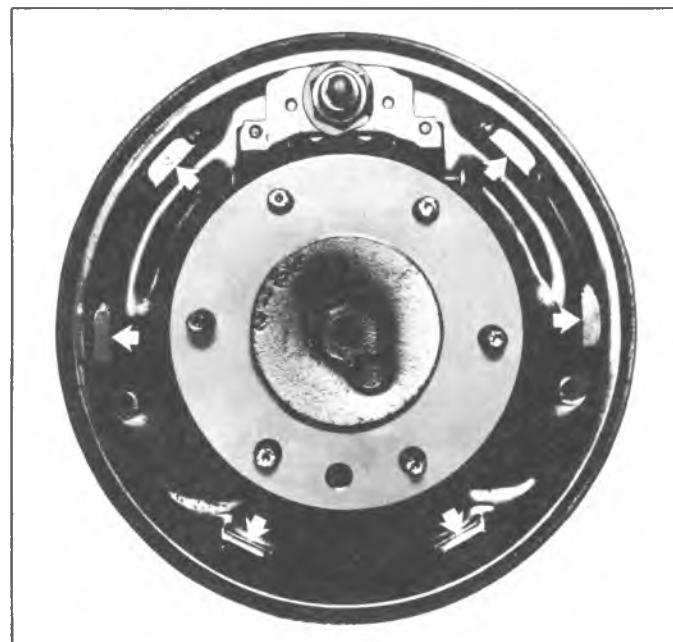

Fig. 49-Flange Plate Contact Surfaces
- Check all brake flange plate attaching bolts to make sure they are tight. Clean all rust and dirt from shoe contact faces on flange plate (fig. 49), using fine emery cloth.